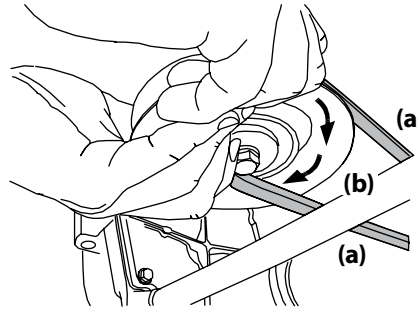

Figure 4-15
- d. While still holding the PTO belt (a) downward, continue turning the PTO pulley (b) until the PTO belt (a) is rolled off the PTO pulley (b). Refer to Figure 4-15.
- Pull the right side of the PTO belt rearward and place the narrow V-side of the PTO belt into the PTO pulley. See Figure 4-15.
- While holding the PTO belt and PTO pulley together, rotate the PTO pulley to the left (See Figure 4-15). Continue holding and rotating the PTO pulley and PTO belt until the PTO belt is fully rolled into the PTO pulley.